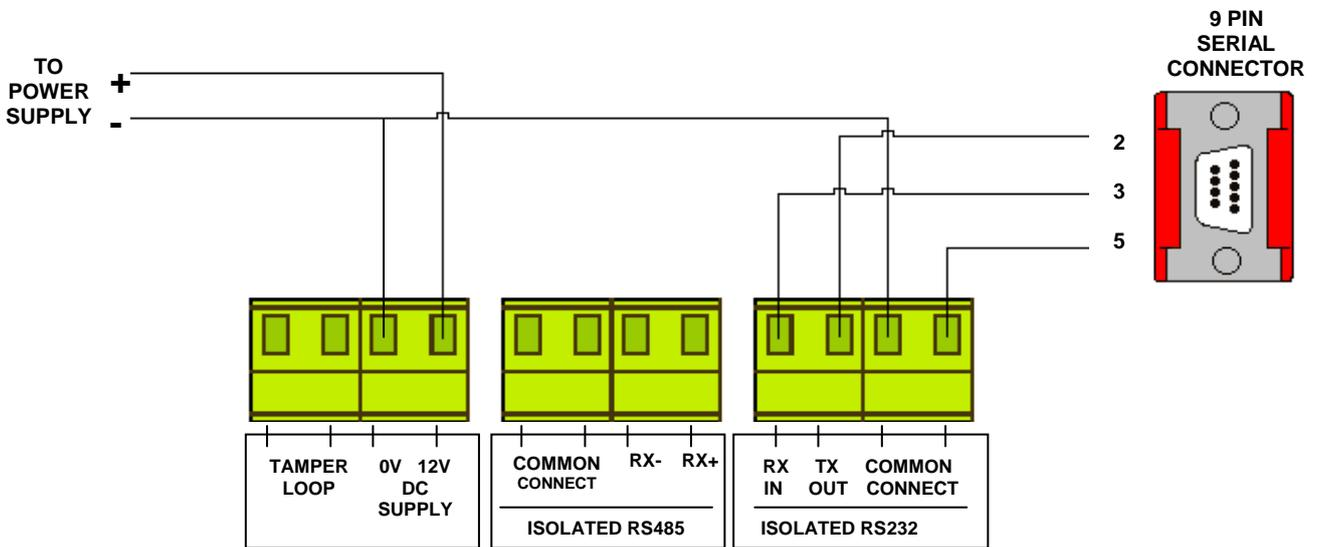

Figure 3
4.2 All Computer to HyperTerminal connections are shown below in Figure 3.